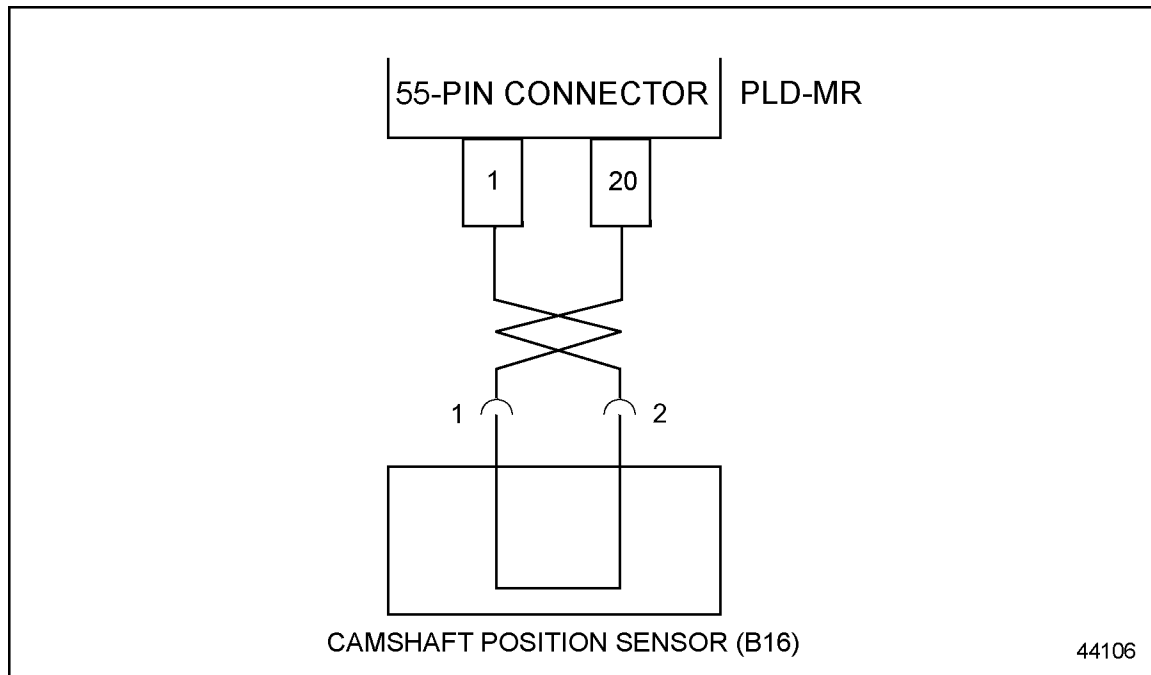

Figure 24-6 PLD-MR — Camshaft Position Sensor Schematic
1. Bridge pins 1 and 20 of the 55-pin connector and check for active fault codes. See Figure 24-6.
1. Ensure that the camshaft position sensor wires are properly connected (not crossed) on the 55-pin connector. Repair as necessary. See Figure 24-6.